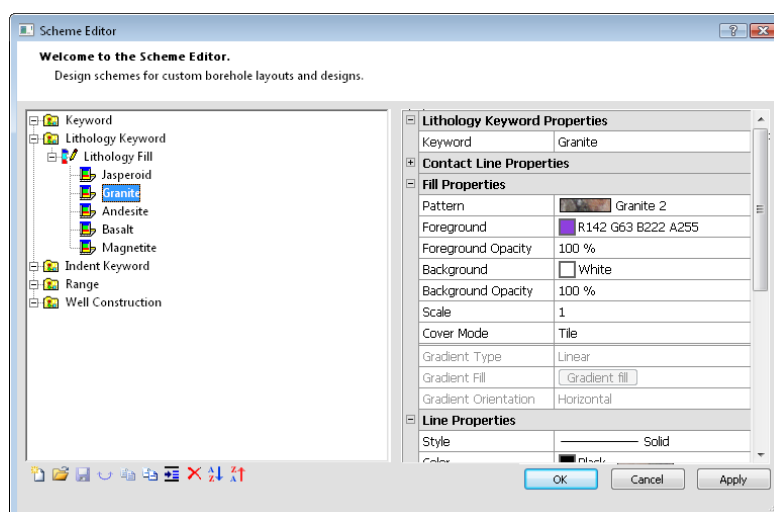

Figure 1.204 – The Scheme Editor Panel
5. Continue selecting fill properties for the rest of the scheme items, fig. 1.204, and click **OK**.